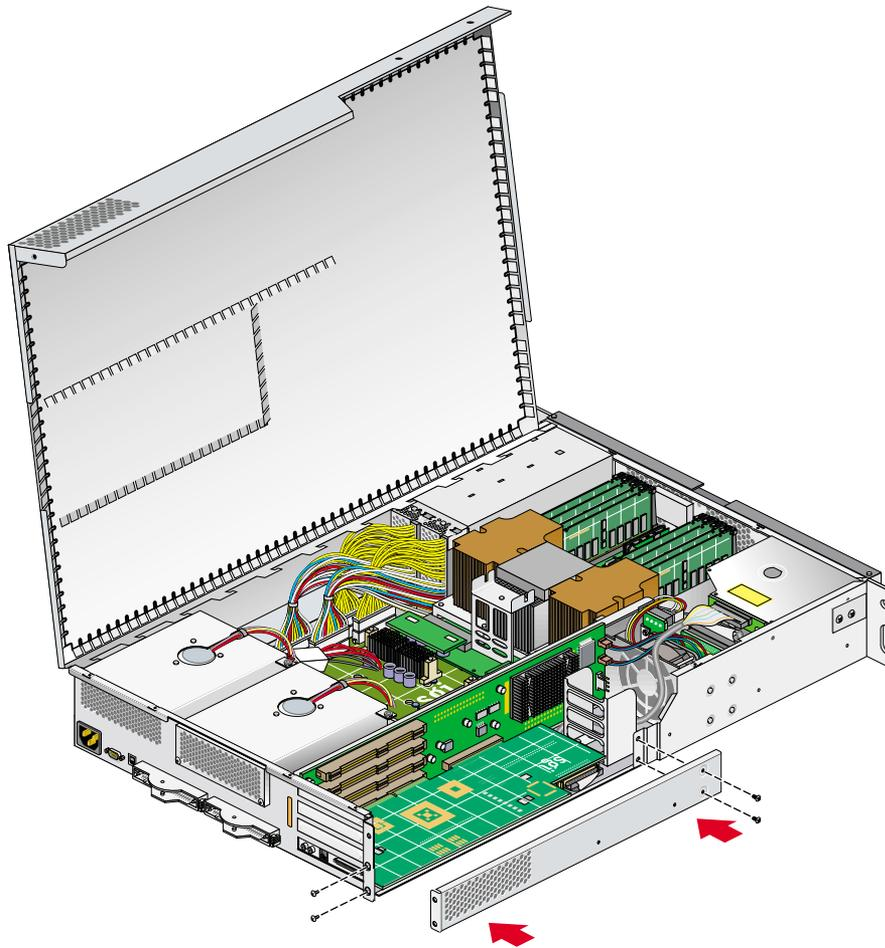

Figure 7-8 Replacing the Lower PCI/PCI-X Support Bracket
12. If you have installed a card in one of the two bottommost card slots, replace the lower PCI/PCI-X support bracket that covers the two bottommost slots and screw in the four Phillips screws, as shown in Figure 7-8.